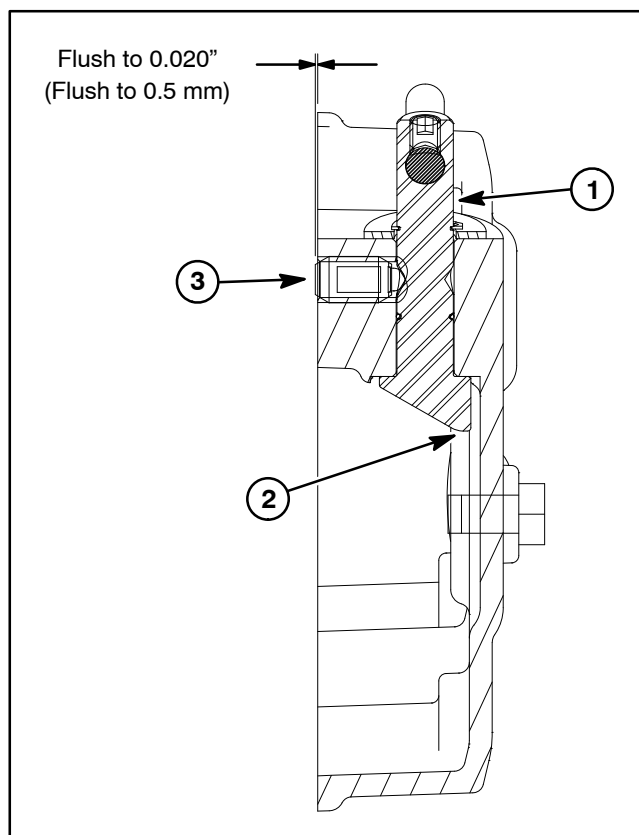

Figure 7
C. Slide shaft up through bore of cover and secure with thrust washer and retaining ring. Position shaft in cover so that cam point of shaft is located away from the gasket surface (Fig. 7).
D. Install plunger detent into groomer cover so that end of plunger is from **flush to 0.020" (0.5 mm)** extending from cover surface (Fig. 7).